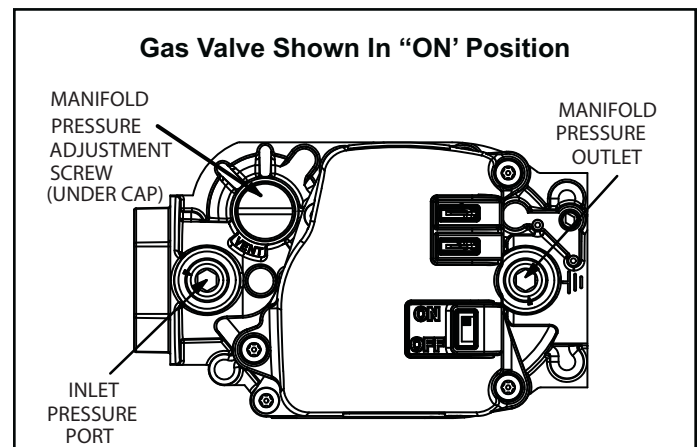

Figure 55.
See Figure 55
6. Move gas valve switch to OFF. See Figure 55.
8. Move gas valve switch to ON. See Figure 55.